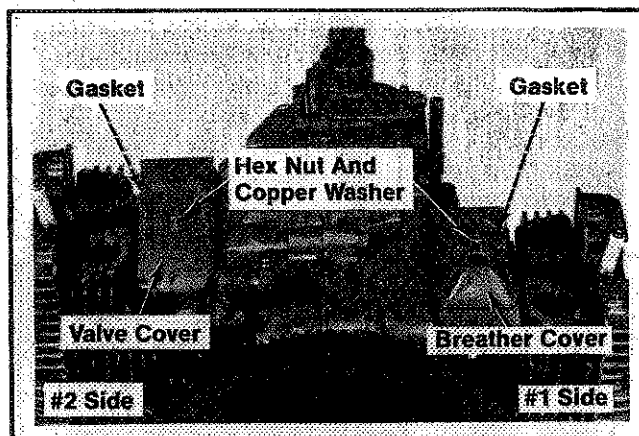

Figure 11-42. Installing Breather And Valve Cover.
2. Install the gasket, breather cover, copper washer, and hex nut. Refer to Figure 11-42.
1. Install the gasket, valve cover, copper washer, and hex nut. Refer to Figure 11-42.